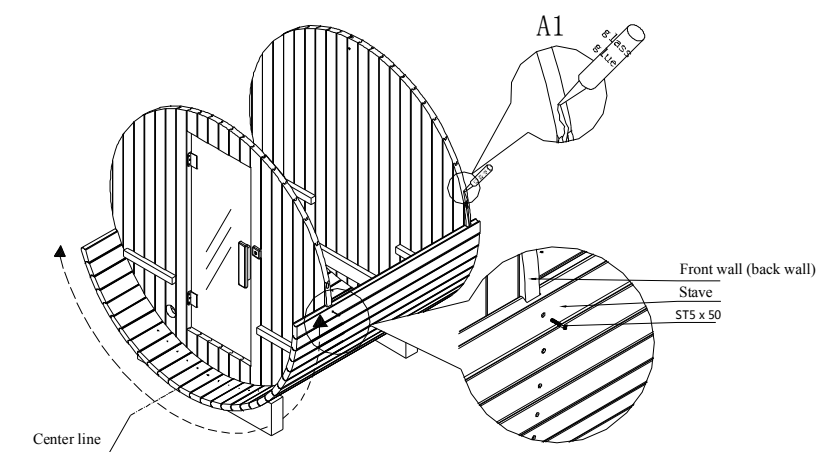

Figure6
- (1) Apply glass glue along the edge of front and back walls. Figure 6 A1 shows stave must be assembled before the glass glue dries.
- (2) Assemble the rest **staves with screw holes** to both sides of sauna bottom up until to the half of front and back walls. Tap each stave with a rubber hammer and fasten it to front and back walls with screws. (shown in Figure 6)